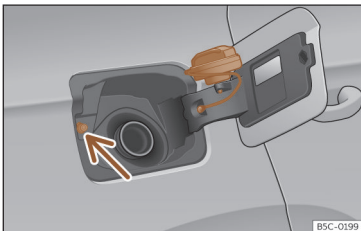

Fig. 207 Fuel tank flap with tank cap attached.
- Place it in the space on the hinge of the open flap >>> **Fig. 207**.
Avoid touching the fuel tank flap lock button >>> **Fig. 207** (arrow). The system will interpret that you have finished and cannot continue refuelling. Press the  button on the driver's door again to continue.